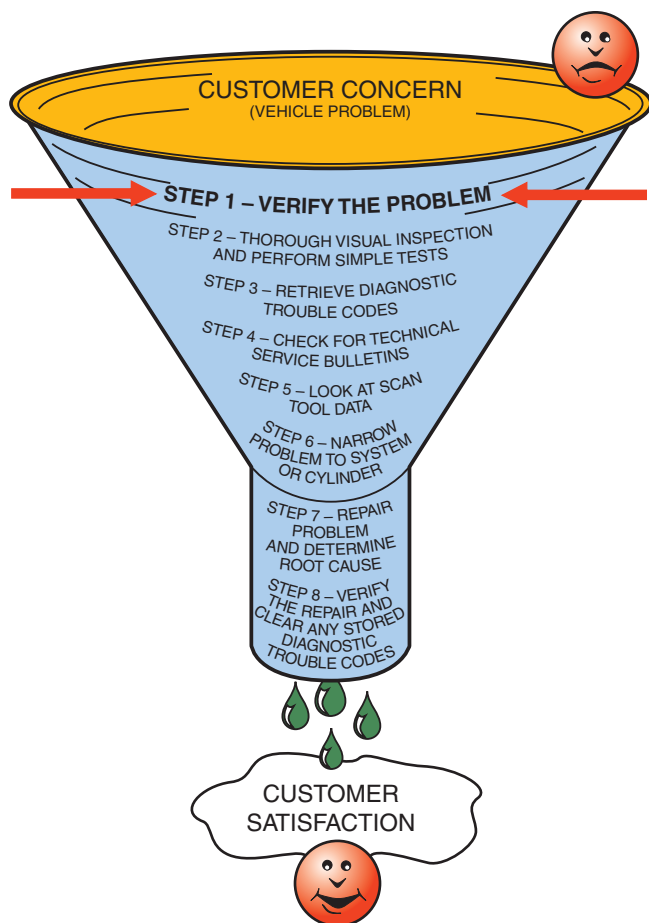

FIGURE 30-2 Step #1 is to verify the customer concern or problem. If the problem cannot be verified, then the repair cannot be verified.
STEP 1 VERIFY THE PROBLEM (CONCERN) Before a minute is spent on diagnosis, be certain that a problem exists. If the problem cannot be verified, it cannot be solved or tested to verify that the repair was complete. ● **SEE FIGURE 30-2.**